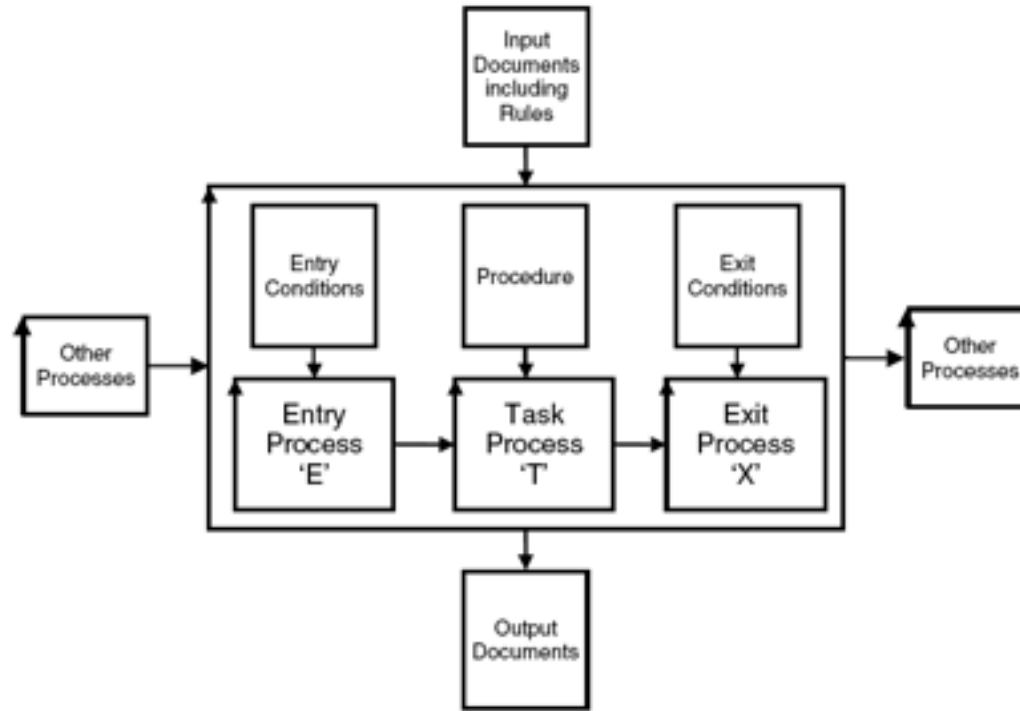

Figure 1.4
- An example of such a process could be 'Requirement Specification.' <- CE, figure 1.4